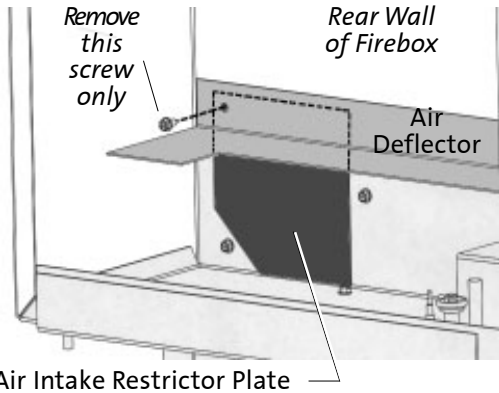

Figure 7. Install the Air Inlet Restrictor Plate.
1. Using a 1/4" nut driver, remove the left hand sheet metal screw holding the Air Deflector to the rear wall of the firebox. See Fig. 7.